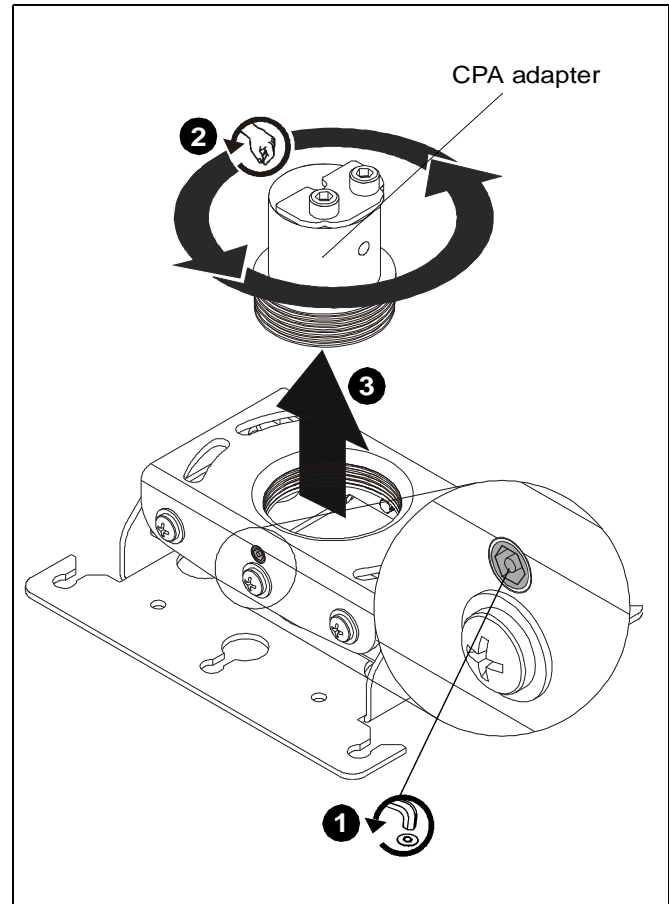

Figure 2
1. Loosen set screw holding CPA adapter to RPE mount. (See Figure 2)
2. Turn CPA adapter counter-clockwise until threads are no longer engaged with RPE. (See Figure 2)
3. Remove CPA adapter from RPE. (See Figure 2)